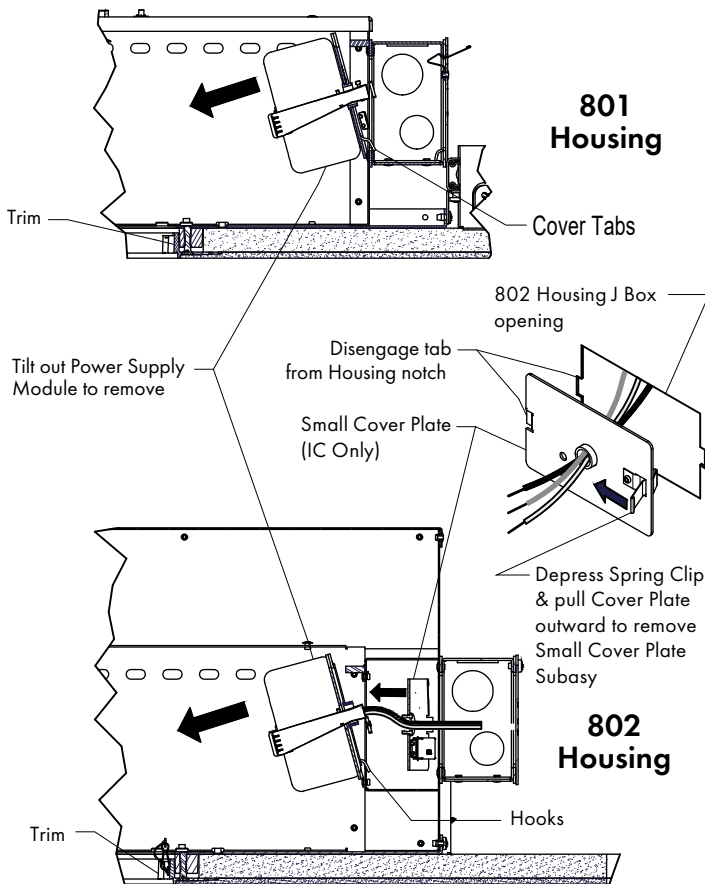

FIG 7.2 Disengage Power Supply Module
STEP 3 Disengage Power Supply Module from back of housing (refer to illustrations below). Supply wires will now be exposed - **FIG 7.2**.